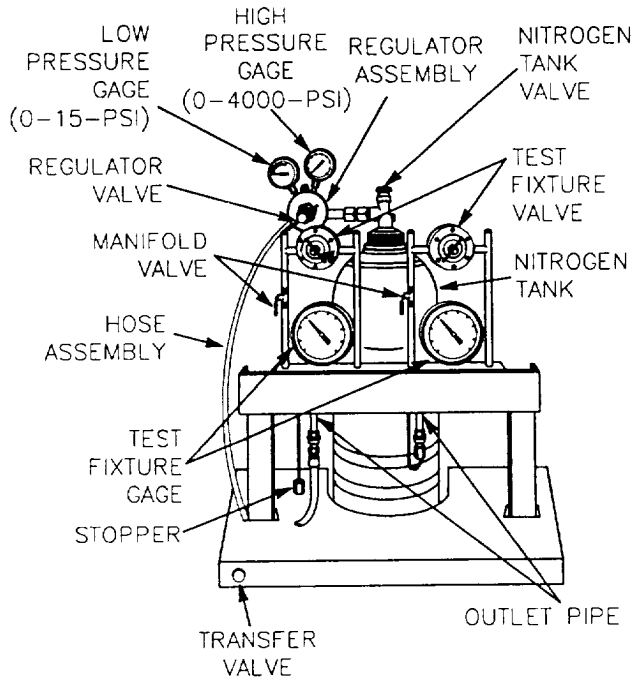

Figure 2-2 Setup for Two-Stage Fixture, PN 8565556
(6) Slowly open pressure regulator valve clockwise (ccw) until approximately 5 psi is registered on the low pressure gage. Check for and eliminate any interference; close pressure regulator valve (CCW).
(7) For bleed down procedures, refer to para 2-3a.
b. Setup for Two Stage Fixture (fig. 2-2).
b. Bleed Down for Two Stage Fixture (fig. 2-2).
(1) Close pressure regulator valve and test fixture valve(s) counterclockwise (CCW).
(2) Close tank valve clockwise (CW).
(3) Open transfer valve by pulling it to the outermost position.
(4) Rotate pressure regulator valve CW until low pressure gage indicates 15 psi.
(5) With manifold valve(s) open, slowly rotate test fixture valve(s) CW until low pressure gage, high pressure gage and test fixture gage(s) indicate zero.
(6) Close pressure regulator valve and test fixture valve(s) CCW.